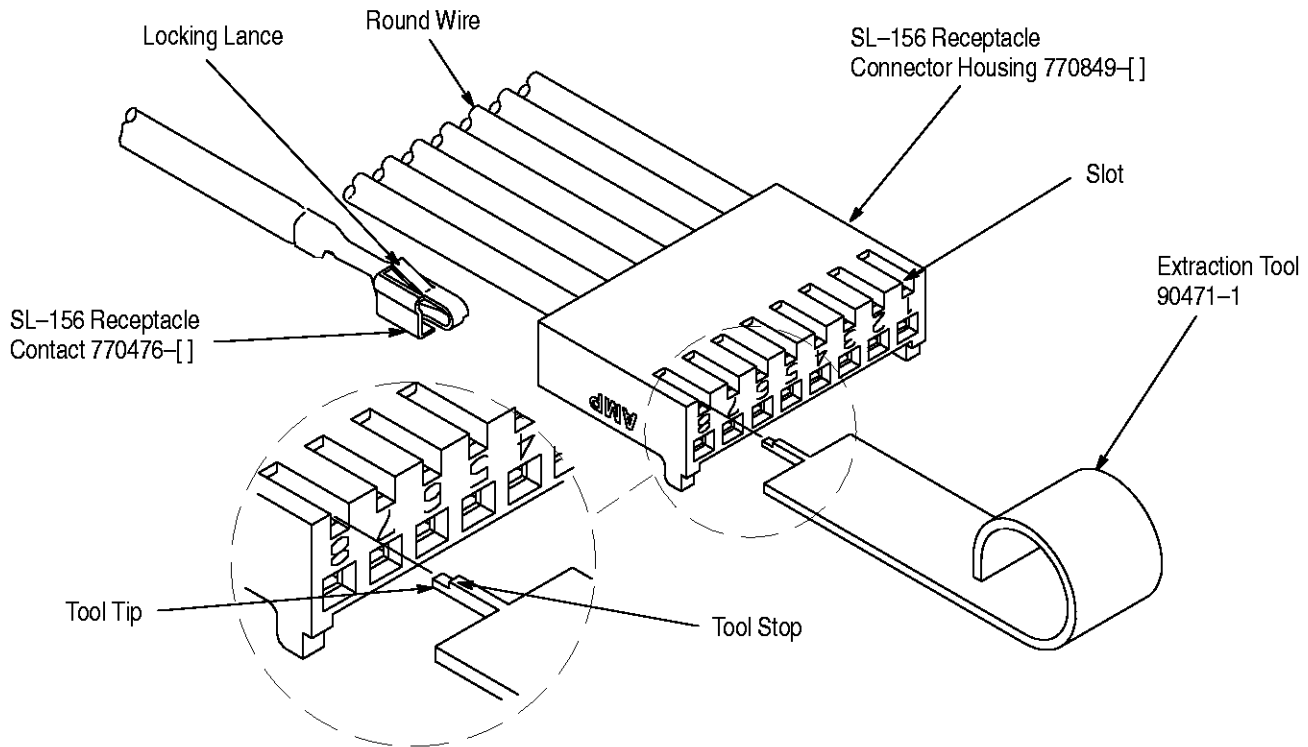

Figure 1
AMP* Extraction Tool 90471-1 is designed to extract individual AMP SL-156 Receptacle Contacts from SL-156 Connector Housings. See Figure 1 for a typical SL-156 receptacle contact and connector housing. Read this sheet carefully before using the tool.
1. Position the extraction tool as shown in Figure 1 and insert the tip straight into the slot until the tool stop bottoms on the connector.